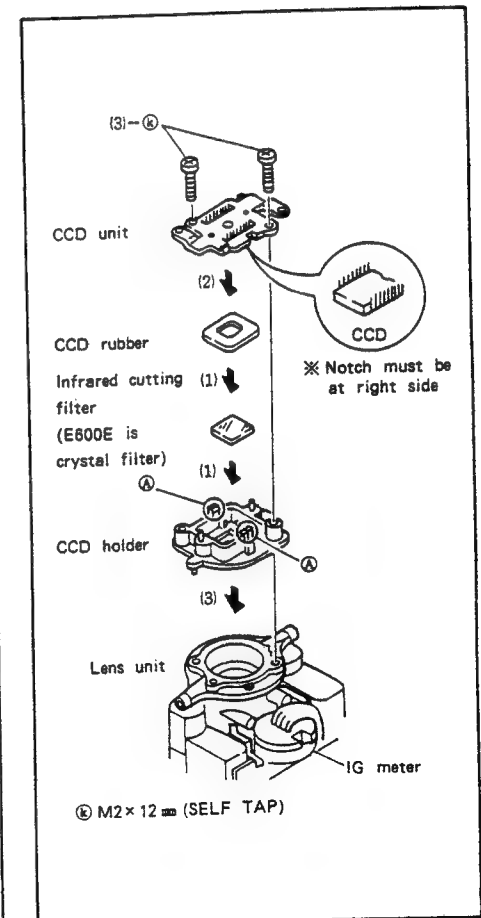

Fig. II-18
- (1) Install the infrared cutting filter (E600E is crystal filter) and then the CCD rubber on the CCD holder.
- (2) Install the CCD unit on the CCD holder.
- * Notes: 1. Check the directivity referring to the Fig. II-18.
2. Push the unit until the two hooks (A) are completely hooked.
- (3) Install the CCD holder on the lens unit, and fix it with two screw (k) s.
- * Note: Check the directivity referring to the Fig. II-18.